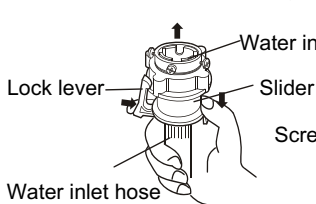
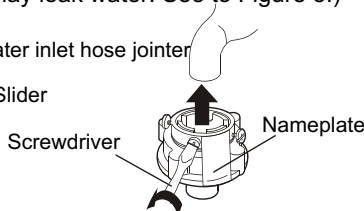
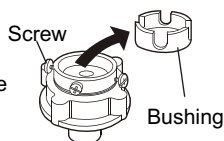

Figure 1
Figure 2
Figure 3
2. Put down the drain hose frame. Take off the drain hose frame. As indicated in Figure 1, put the drain hose into the cabinet. Then stretch one hand into the cabinet to nip the claw of the drain hose bushing to remove the claw from original position. Take off the drain hose bushing with the other hand. (As indicated in Figure 2 and 3).
1. Press the lower end of the lock lever and push down the slider. Take off the water inlet hose jointer from the water inlet hose component. See to Figure 1.
2. Loosen the screw till the water faucet can be accessed. Put the jointer of the water inlet hose on the faucet. See to Figure 2. (If the faucet is too large and the jointer can not be set on the water faucet, please loosen the four screws and take out the bushing in the jointer. The front end of the faucet must be smooth, otherwise it may leak water. See to Figure 3.)